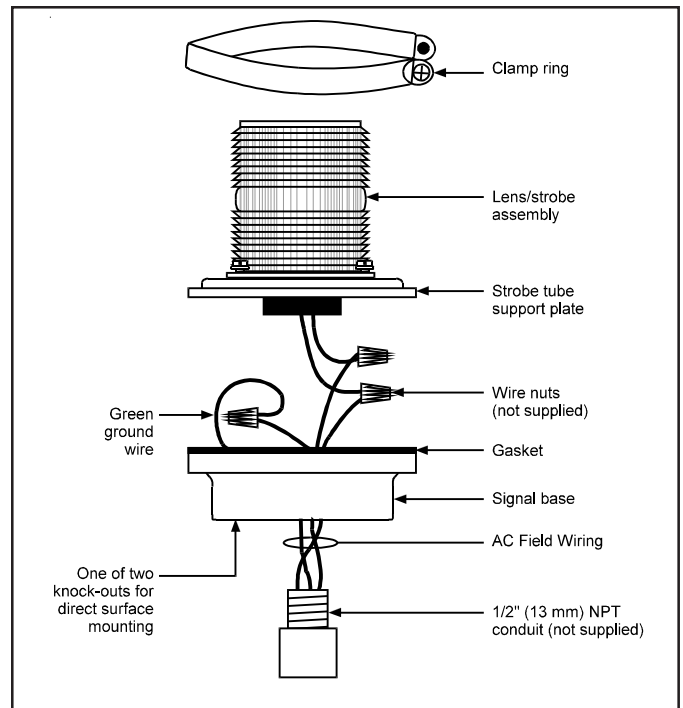

Figure 2. Installing the 92-N5 and 95 Series Signals (92-N5 Shown)
- b. **92 and 95 Series:** See Figures 2 and 3. Remove the screw in the clamp ring and remove the ring.